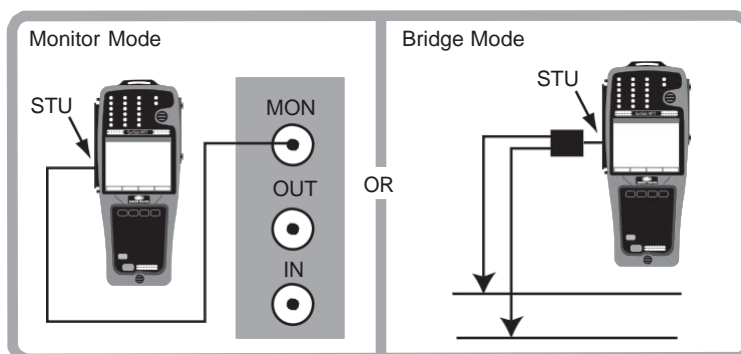

Figure 49 In-Service E1 Circuit Monitoring
3. Connect the test set to the circuit as shown in Figure 49 and press HISTORY to acknowledge any blinking LEDs.